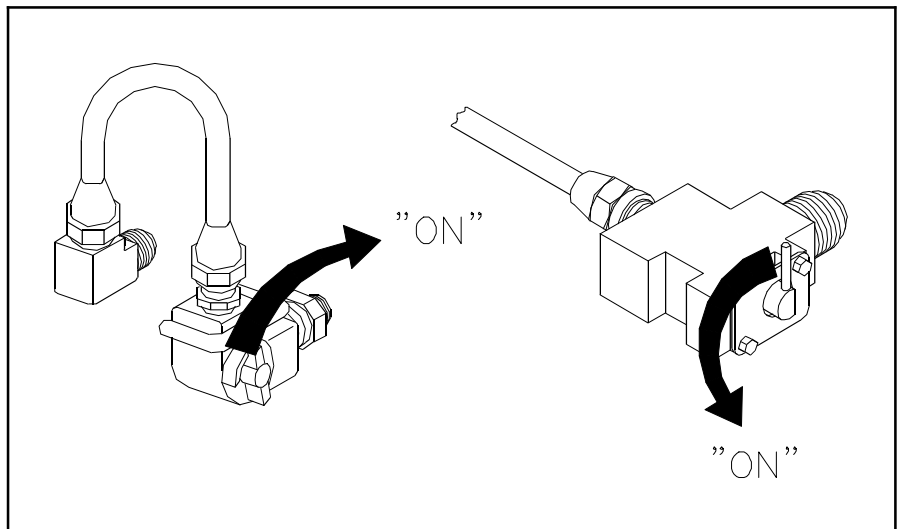

Figure 11.45 Manual Valve (Alternate Versions)
21. Check the manual shut-off valve shown in Figure 11.45 to be sure it is in the on position.